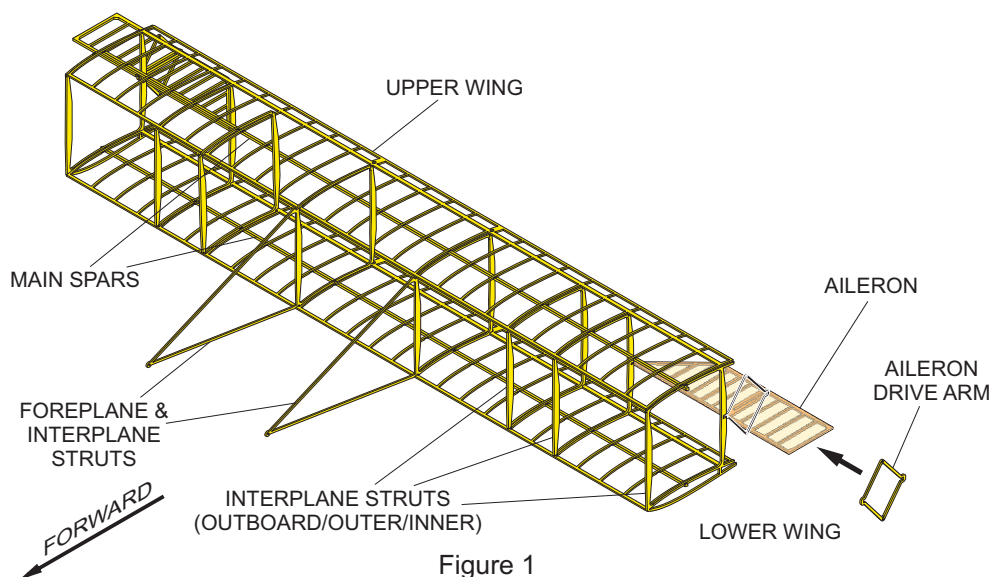

Figure 1
- D Attach the interplane frames between the upper and lower wings to form the wing assembly as shown in Figure 1 below. The interplane struts attach to the outboard face of the applicable ribs.